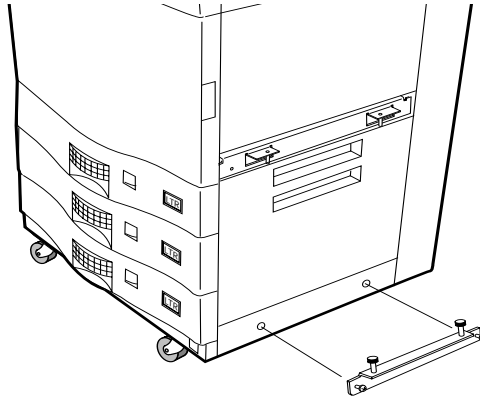

Figure 4-6 Support Stand Guide
2. Install the support mounting bracket, as shown in Figure 4-6.